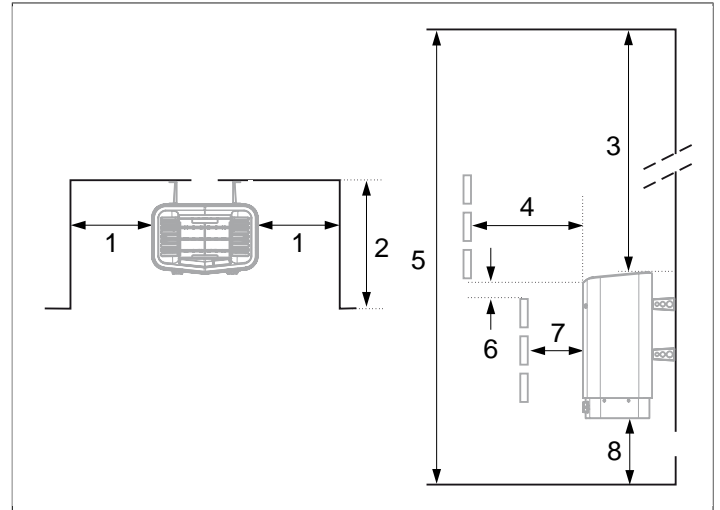

Figure 3: Positioning the heater - recess installation
- on the same wall as the door (or the side wall if very close to the door wall). The heater can also be positioned in a recess (see **Figure 3**, Page 2).
Position the heater at a safe distance from the floor, side walls and interior fittings (see **Figure 3**, Page 2).